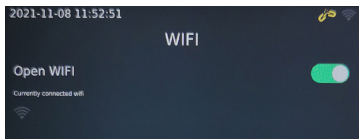

Figure 13
- c) Click“Open WIFI”, as shown in Figure 13